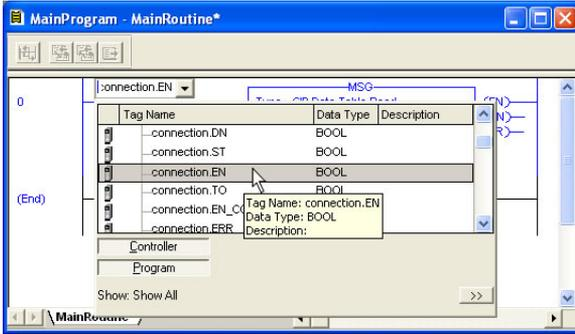

Figure 107: Configure XIO Element
- a) Double-click on the XIO element located to the left of the MSG block. In the drop-down box, double-click on the "connection.EN" field. Refer to Figure 107. This configuration causes the MSG instruction to automatically retrigger itself when it completes. While this is acceptable for the purposes of this example, it can produce high network utilization. In actual practice, it may be desirable to incorporate additional logic elements to allow triggering the MSG instruction at a specific rate or under specific conditions.